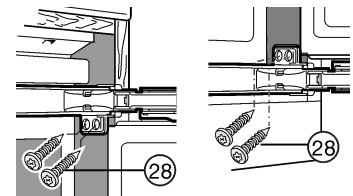

Fig. 15
- ▶ At the top and bottom of both doors with Spax screws *Fig. 15 (28)* passed through the hinge plates.